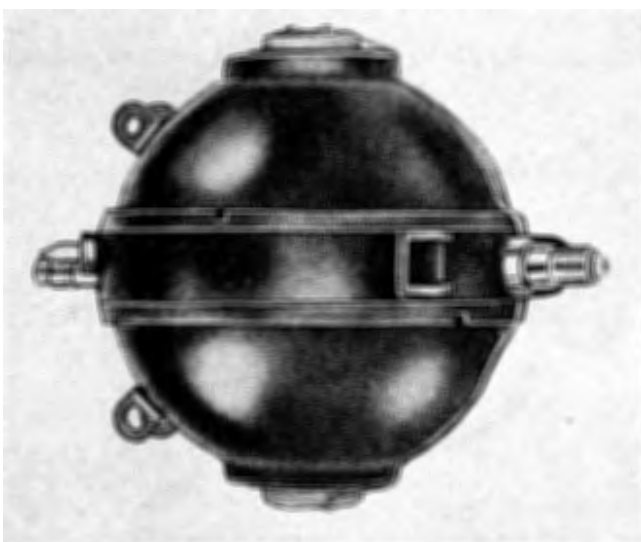

Figure 38T. Gyro Unit Assembly
1. The gyro unit assembly is hermetically sealed. (Figures 38T and 38U). Before the hermetic seal is broken or any disassembly work is attempted the gyro unit should be inspected and tested to determine if repairs are necessary. If the gyro rotor is in running condition it should be tested by measuring the speed of the rotor and the power consumption
1. If tests indicate the gyro unit assembly (figures 38T and 38U) requires repair the first step in its disassembly is to cut the pinch-off tube (2, figure 38U) to break the hermetic seal. The gyro unit can be disassembled in the following steps.